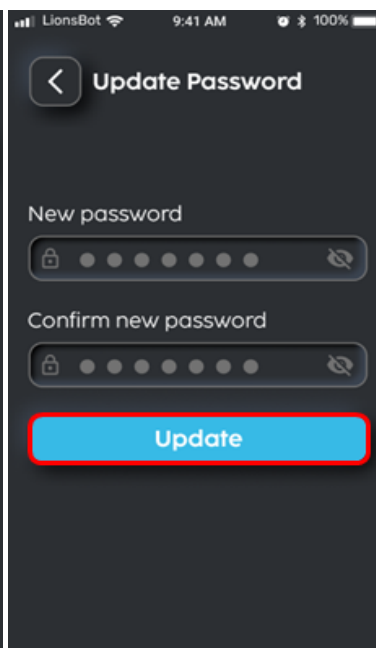

FIGURE 7-9
6. Click on the 'Update' button to update password (Fig. 7-9).